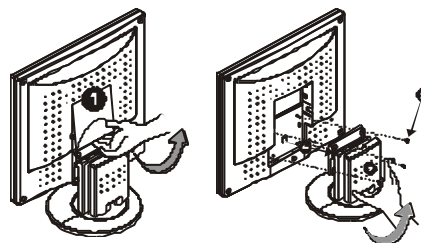

Figure 1-2
1. Remove the rear panel (1) from the monitor. (see Fig. 1-2)
2. Remove the rear support panel (2) from the swivel base support column.
3. Unscrew screws (3) the swivel base support column (4).
Before connecting the display to the swivel base support column, please refer to Fig.1-2.